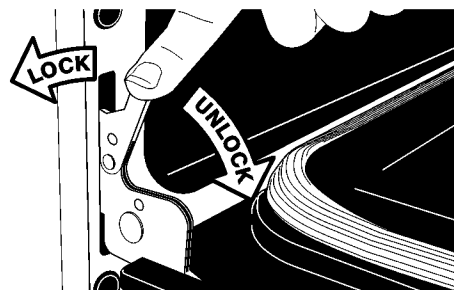

Figure 56: Door hinge locks
2. Pull the door hinge locks on both left and right door hinges down from the oven frame completely towards the oven door (Figure 56). A tool such as a small flat-blade screwdriver may be required.
4. Push the door hinge locks up towards and into the oven frame on both left and right oven door hinges to the locked position; then, close the oven door (Figure 56).